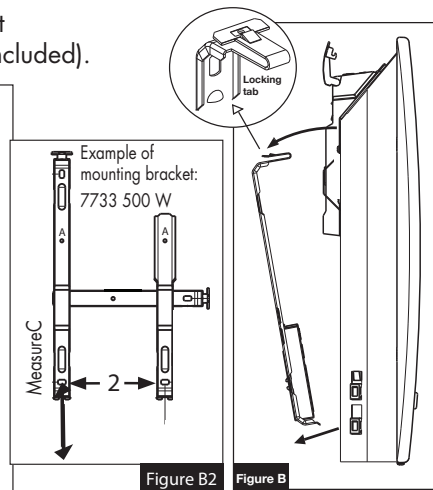

Figure B2
- 2- Place the center of the mounting bracket's bottom holes (no. 2 Fig. B2) at the measure C (see tables Fig. C - D - E - F) from the ground and make a mark.